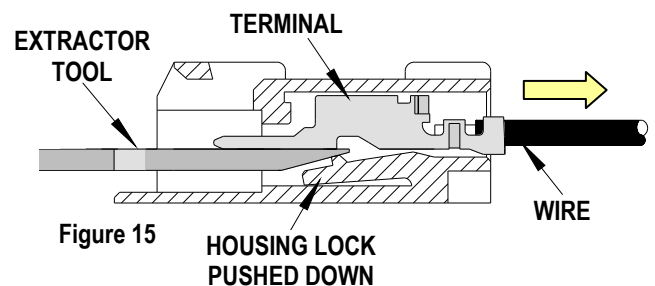

Figure 15
2. While depressing the housing lock, push the terminal back through the connector slot and pull the terminated wire out in the arrow direction. See Figure 15.